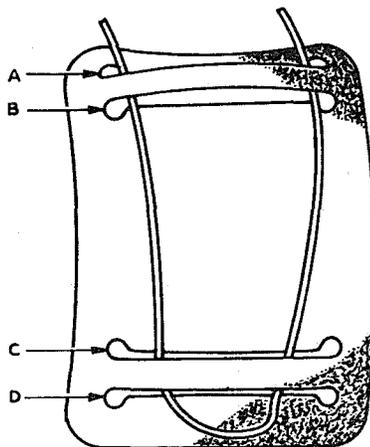

Fig. 15 - Synthetic Rubber Headband Pad
**3.52 Synthetic Rubber Headband Pad:** To place a synthetic rubber headband pad on the headband, pass the free end of the headband through slots A and B and then through slots C and D as shown in Fig. 15.